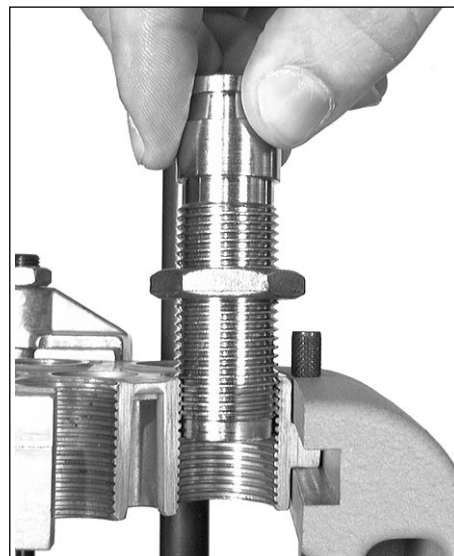

FIG 88
2. Thread the powder die into Station 2. Screw it down about halfway FIG 88.